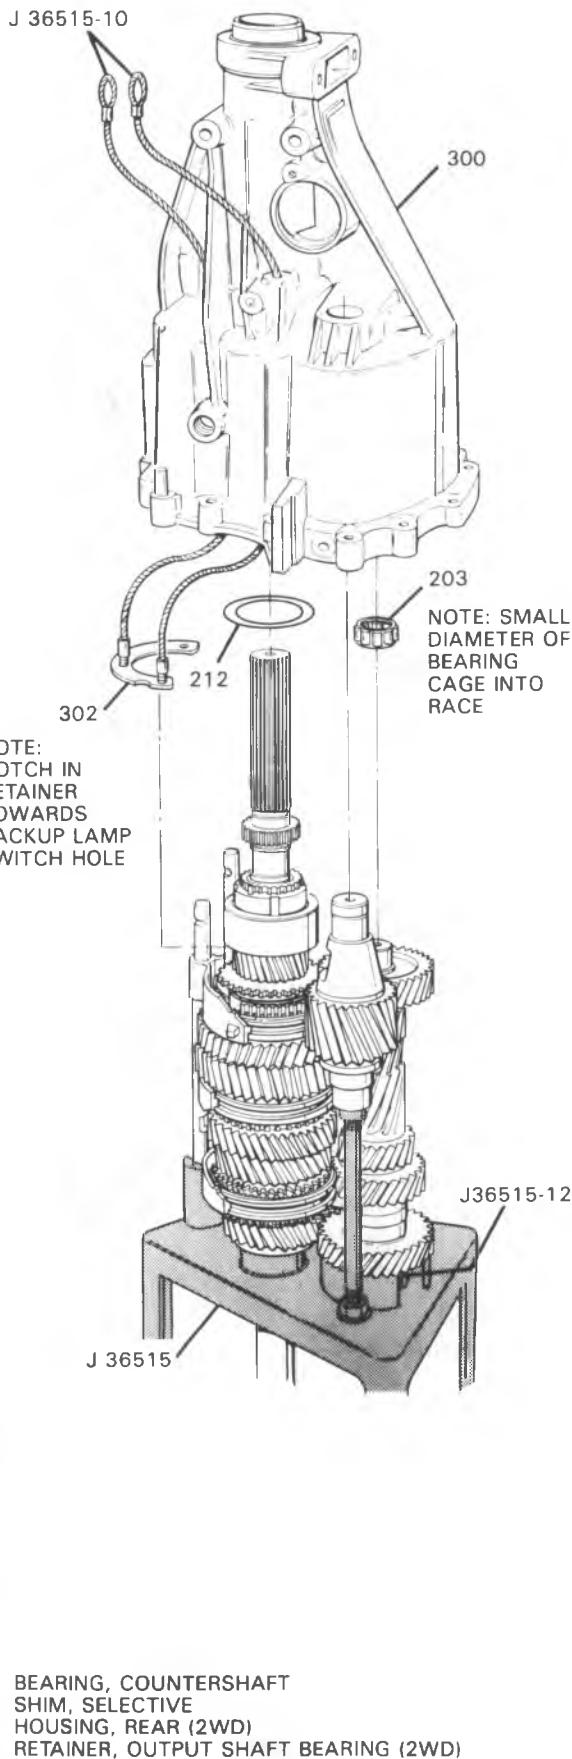

Figure 77 2WD Rear Housing Install
15. 2WD J 36515-10 through bolt (304) and (305) holes in the rear housing (Figure 77).
- Screw into the output shaft bearing retainer (302).
- Notch in retainer towards oil delivery tube assembly (307).
16. 2WD Bearing (203).
- Install in bearing race (202) of the housing.